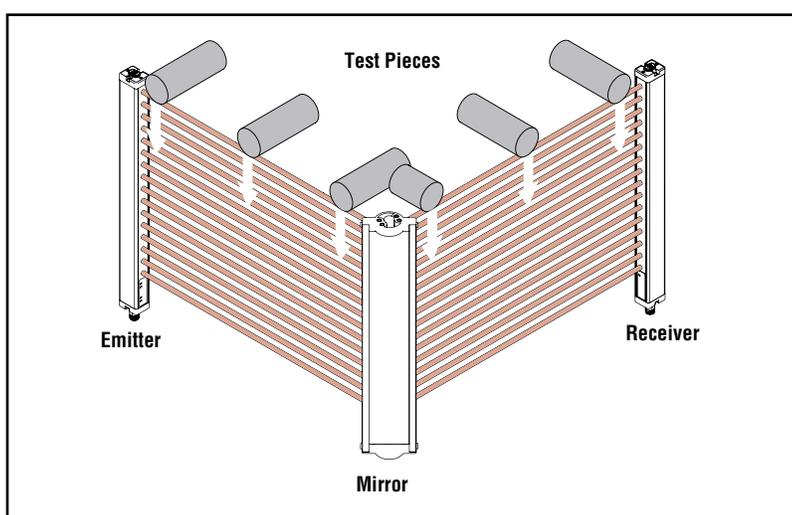

Figure 2. EZ-SCREEN Type 2 trip test for corner mirror applications
- *If corner mirrors are used in the application*, the beams must be tested in three places on *each leg of the beam path* (between emitter and mirror, and also between mirror and receiver, Figure 2).